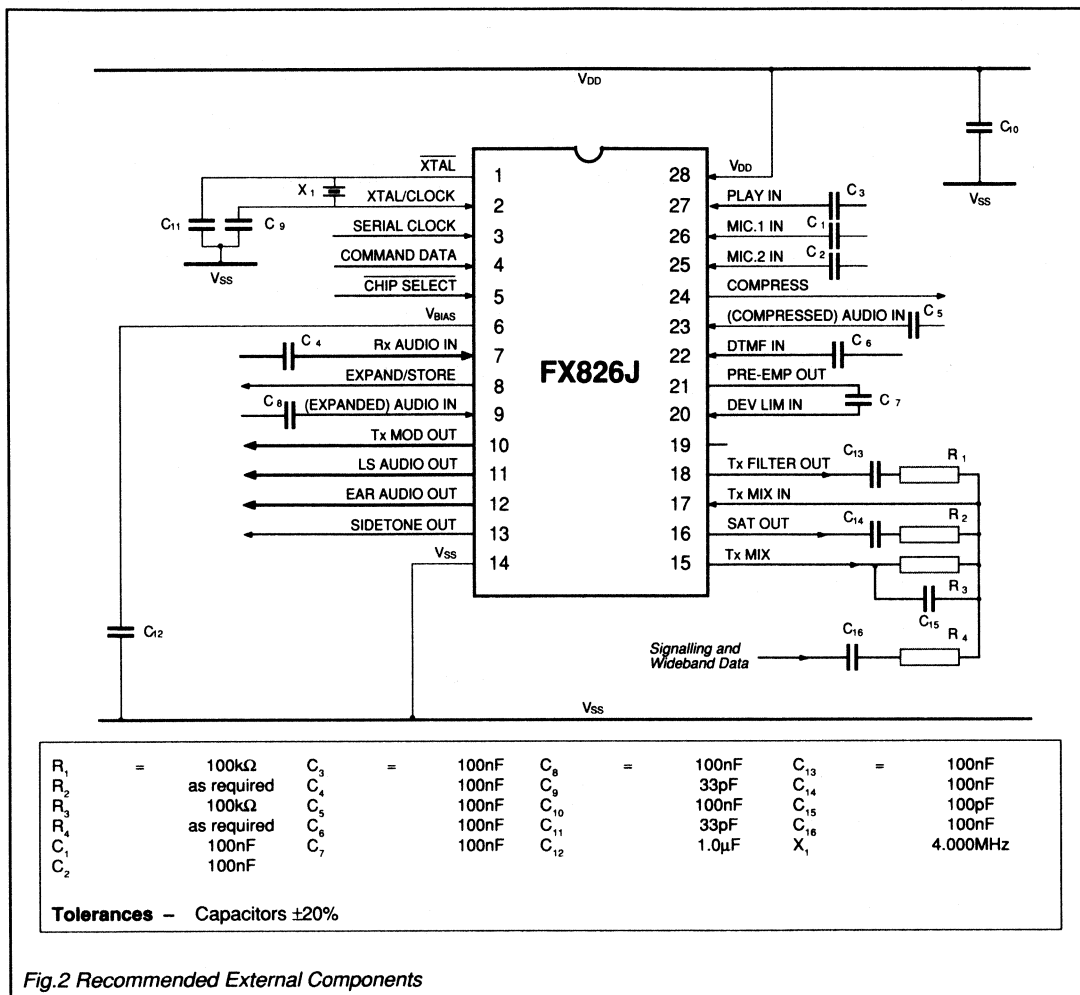

Fig.2 Recommended External Components
4. Using the components shown in Figure 2.